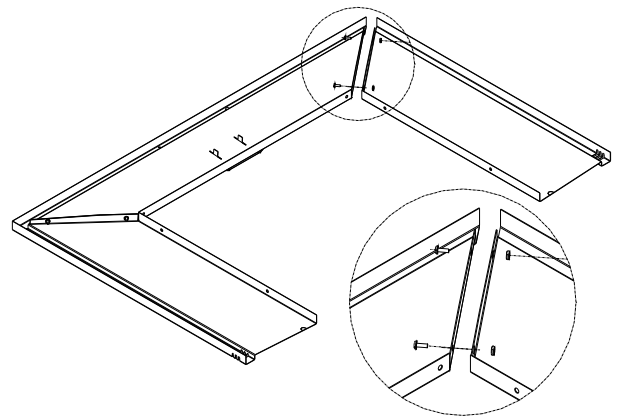

Figure 2.9b
3. Line up the holes of the side and top panels and secure with the screws, washers and nuts. (see Figure 2.9b)